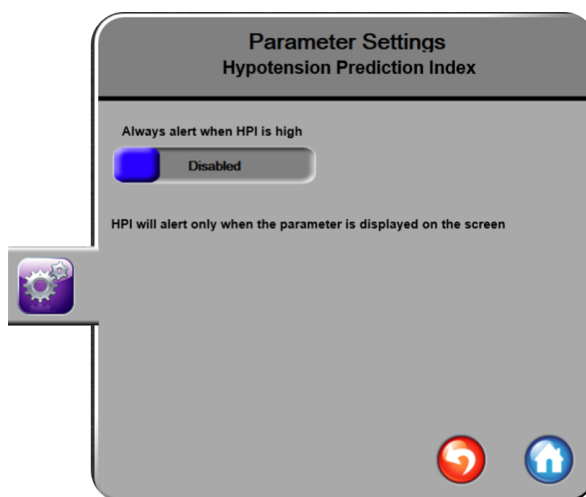

Figure 12-4 Parameter settings - HPI information bar toggle button
- 5 Touch the **Always alert when HPI is high** toggle button to switch to **Disabled**. See figure 12-4